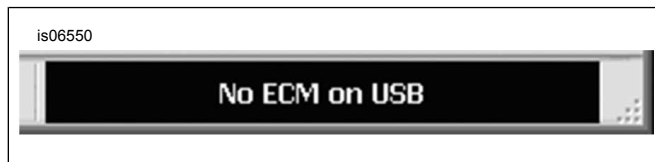

Figure 13. ECM Check
- b. See Figure 13. Open ProTune II by double-clicking the ProTune II icon on the desktop. In the lower-right corner of the ProTune II window there is a communication status box. When there is no ECM communication this box will flash between blue and black and alternate between messages No ECM on USB and Checking USB.